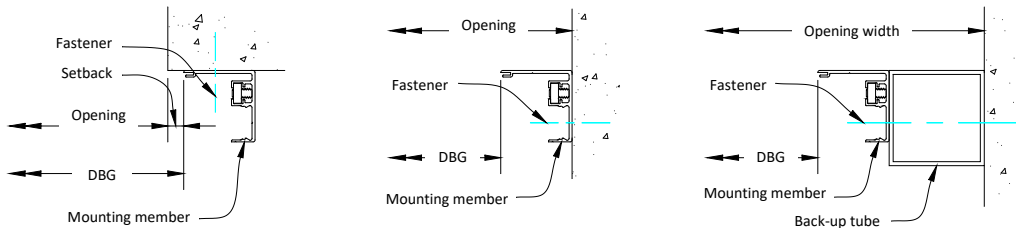

Figure 2
Step 3: Install mounting members; refer to Figure 2. Two mounting members are supplied, one right hand and one left hand. Figure 2 shows the three standard types of mounting, starting from the left: face of wall (FOW), between jambs (BJ) and between jambs (BJ) with back-up tube. Place left mounting member at desired location on the jamb, plumb and mark jamb at fastener locations. Remove member; drill and prepare holes for wall fasteners. Place member back on jamb, lining up holes in member to those in the jamb, and install wall fasteners tightening them snugly. Measure the DBG from a point on left mounting member as shown in Figure 2 to the same point at which right mounting member